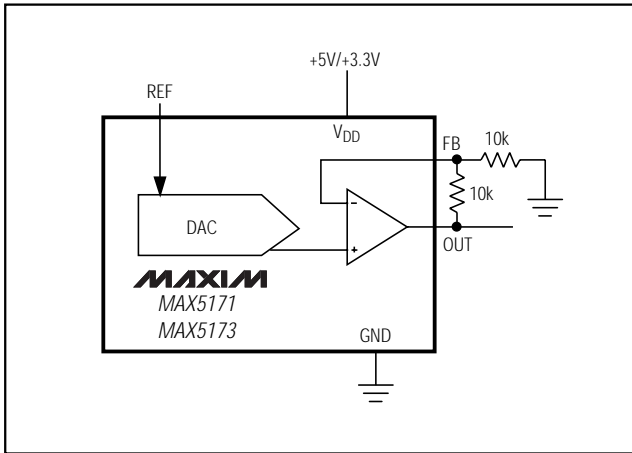

Figure 6. Unipolar Output Circuit (Rail-to-Rail)
Figure 6 shows the MAX5171/MAX5173 configured for unipolar, rail-to-rail operation with a gain of  $+2\text{V/V}$ . Table 2 lists the codes for unipolar output voltages. The output voltage is limited to  $\text{V}_{\text{DD}}$ .
**Table 2. Unipolar Code Table (Circuit of Figure 6)**